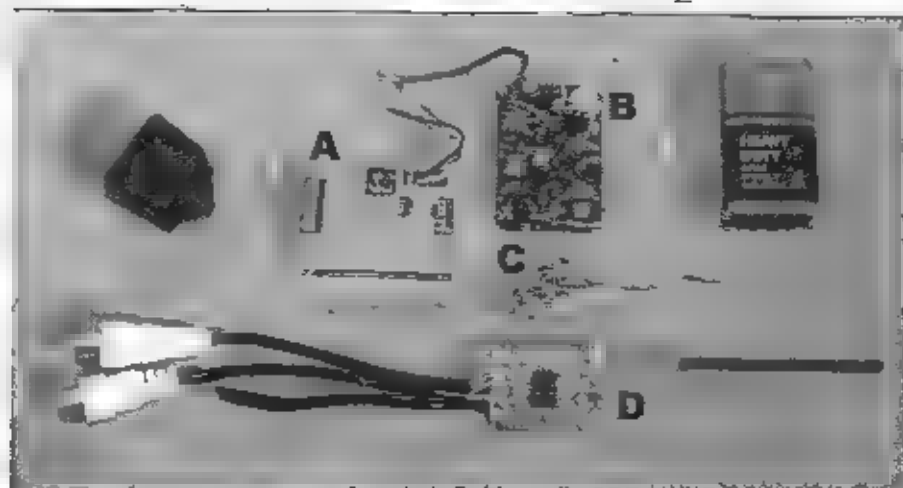

Figure 10-4 Various micro transmitters each operate on a different frequency.
Take a look at some of my transmitter collection in Figure 10-4. All of them are considered low power (less than half a watt), and each operates on
Unless your transmitter can be directly received by a television set, you are going to need a receiver, which is sometimes called a “down converter,” although it really is not. This small box will allow you to plug a patch cable from the audio and video output connector directly into a standard video monitor, VCR, or television that has a composite input. Most of the receivers will have a four channel selector switch, or a tuning dial (great feature) such as the one shown in Figure 10-5 which came from a wireless camera kit I reverse engineered to extract the very small transmitter (C) shown previously in Figure 10-4.